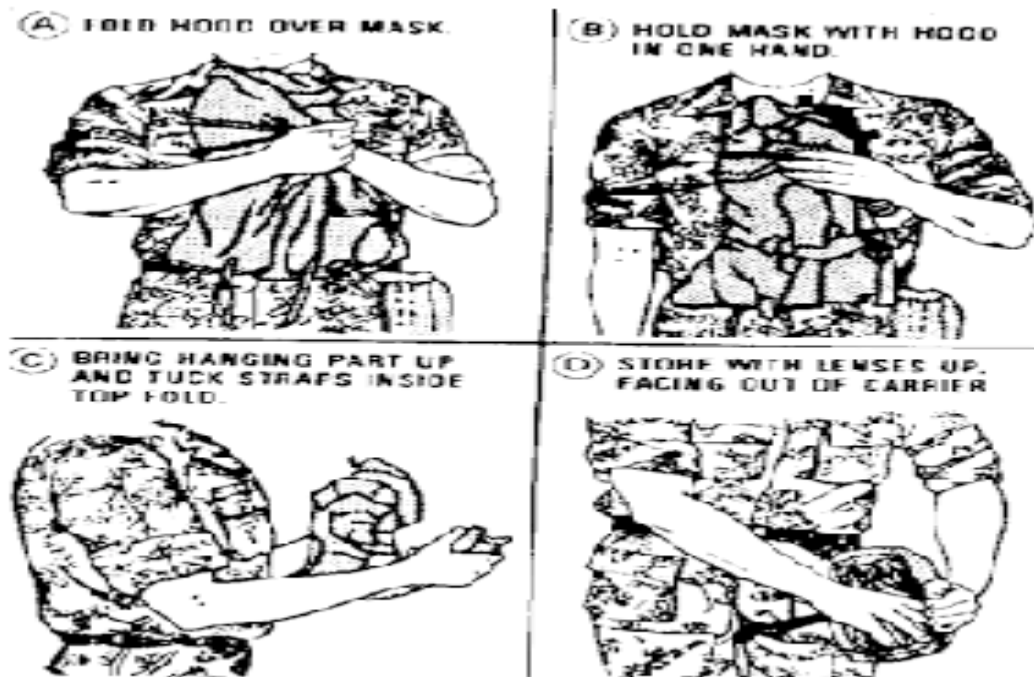

Figure E-52. Pull hood over the front of mask.
- b. Pull the hood over the front of the mask gently with the other hand so that the mask is inside out (figure E-52).